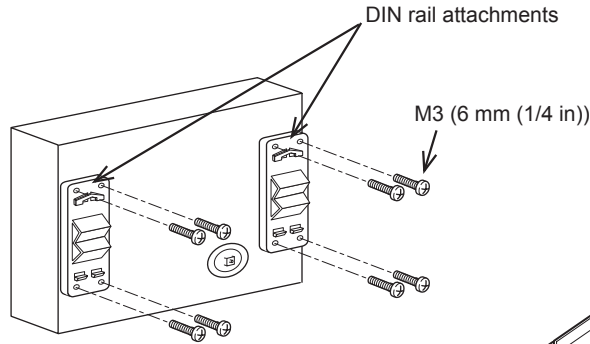

Fig. 5-4
2. Attach the supplied two DIN rail attachments to the EB-50 with the supplied M3 screws. (Fig. 5-4)